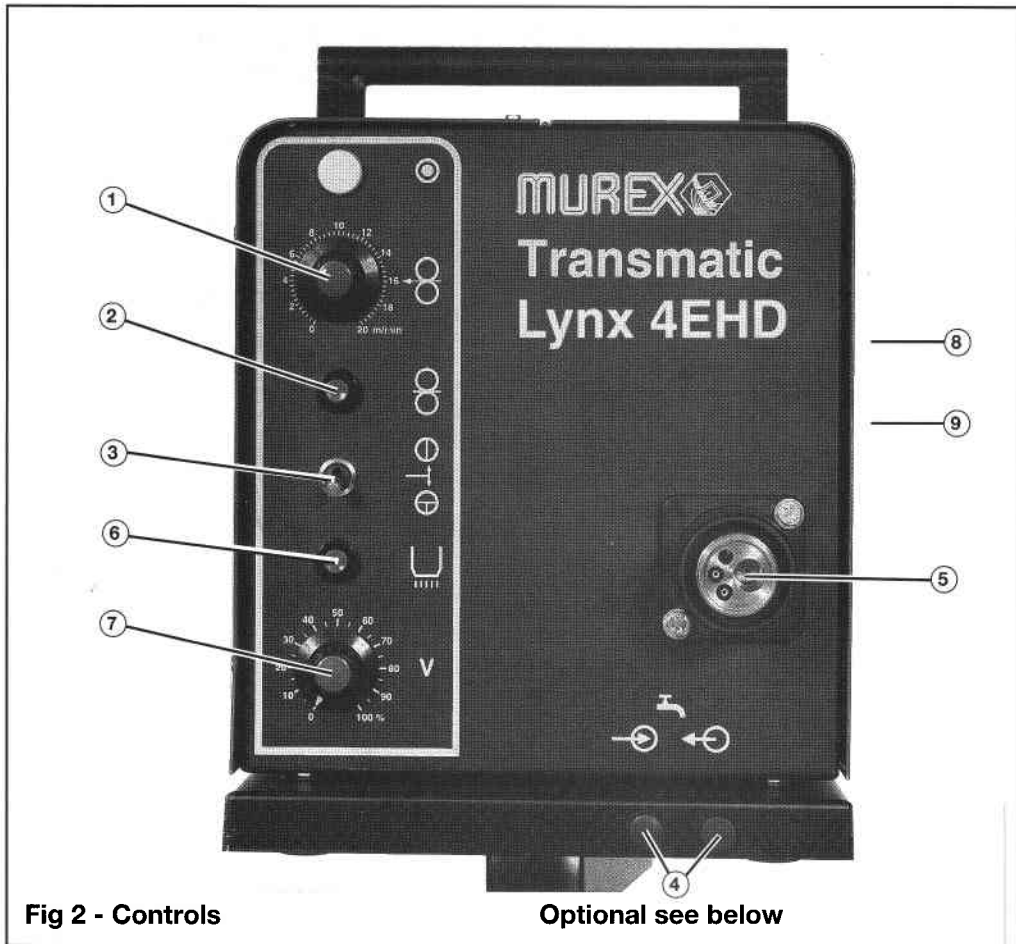

Fig 2 - Controls
8. Push the inching button - See Fig. 2. and check that the wire is driven smoothly through the outlet guide.